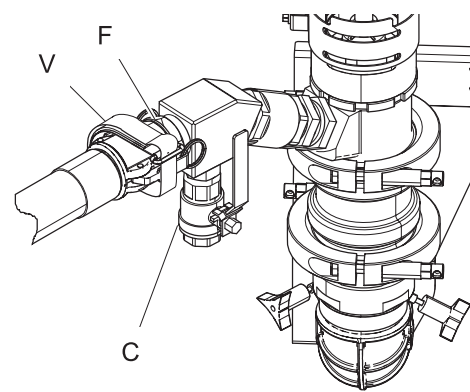

Fig. 10
5. Attach hose to spray gun fluid inlet and pump fluid outlet (F), then secure Velcro straps (V) around the cam-lock fitting. (Fig. 10)